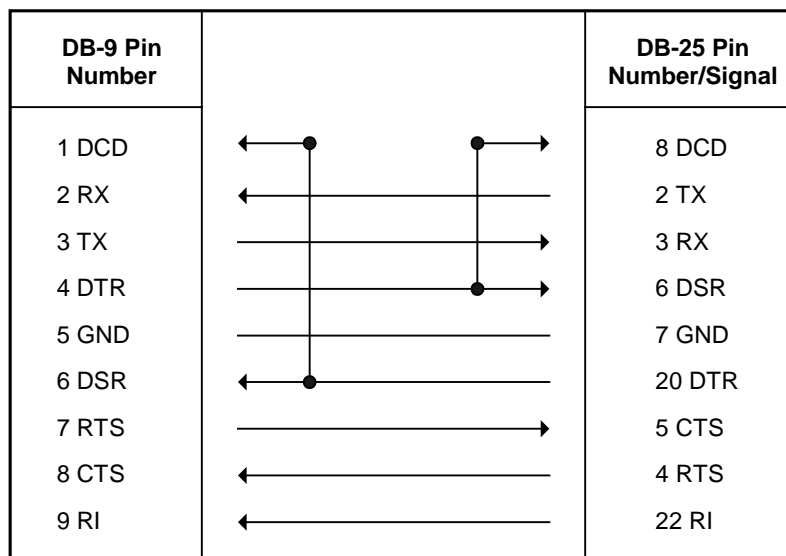

Figure 2-10: DB-9 to DB-25 Terminal Cable
Figure 2-10, Figure 2-11, and Figure 2-12 show cable diagrams for three common configurations. The cable shown in Figure 2-11 may be used to connect modems to the NDS/6000. Modems should be configured to switch their carrier detect signal (CD) on and off in response to making and breaking telephone connections. This insures that the NDS/6000 terminates user sessions when they disconnect. The cable shown in Figure 2-10 can be used to connect a DB-9 terminal (or standard PC COM) port directly to the NDS/6000. The DB-9 to DB-9 terminal cable diagrammed in Figure 2-12 is a standard NULL modem connector, readily available in retail outlets. DB-9 to DB-9 modem cables (not diagrammed) require no special pinouts and use a straight-through cable. A 3-wire cable is shown in Figure 2-13.